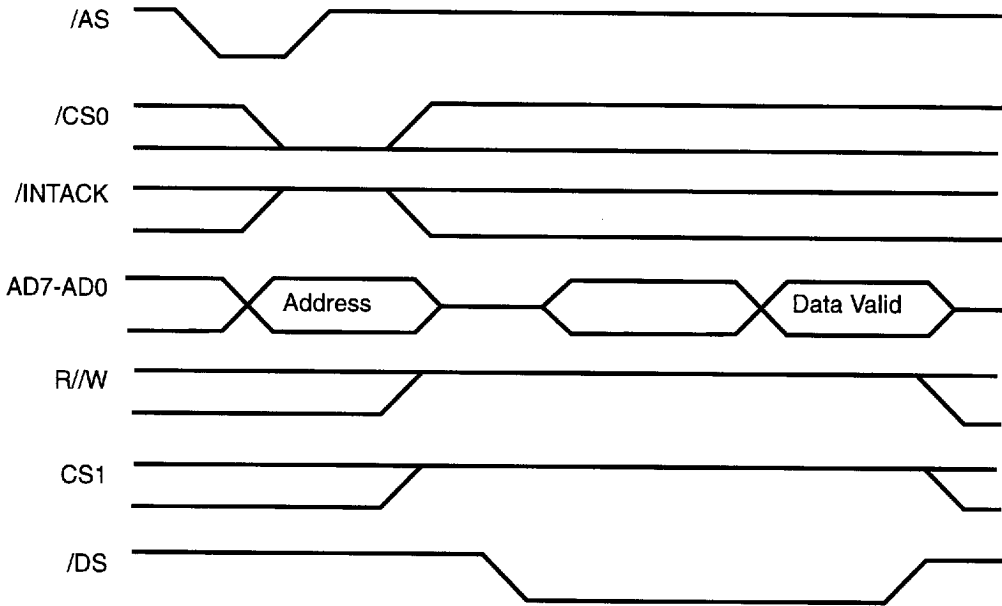

Figure 15. Read Cycle Timing
**Read Cycle Timing.** Figure 15 illustrates Read cycle timing. The address on AD7-AD0, and the state of /CS0 and /INTACK are latched by the rising edge of AS. R/W must be High to indicate a Read cycle. CS1 must also be High for the Read cycle to occur. The data bus drivers in the SCC are then enabled while /DS is Low.